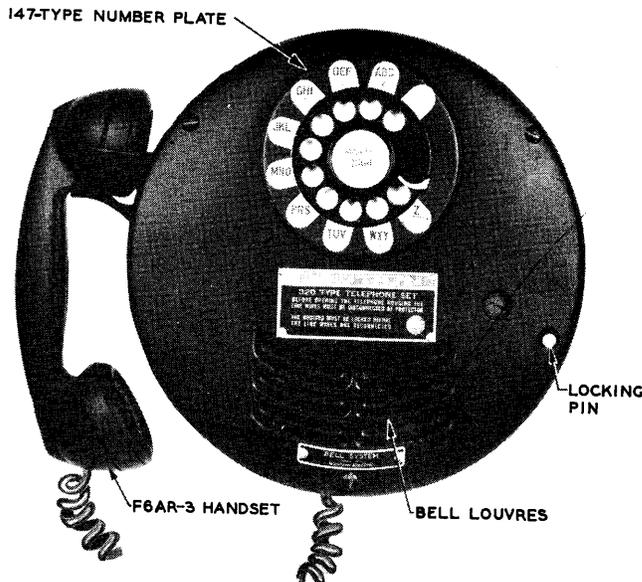
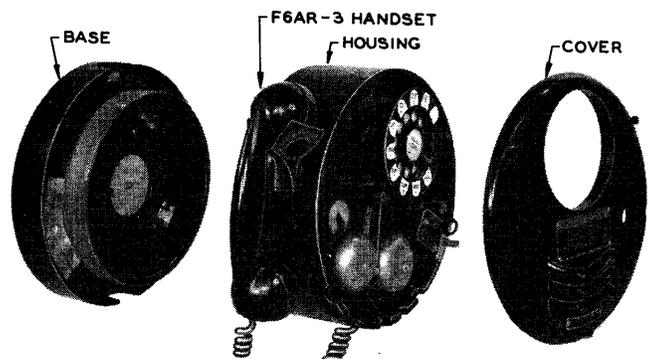

Fig. 1 — 320-type Telephone Set
Fig. 2 — 320-type Telephone Set, Exploded View
2.01 The 320-type set as shown in Fig. 1 consists of four major parts: handset, base, housing, and cover (see Fig 2). The latter three parts are made of cast iron or high tensile strength aluminum alloy to withstand any explosion within the set. The 320ER set is intended for manual service. The 320FR set is to be used in dial areas.